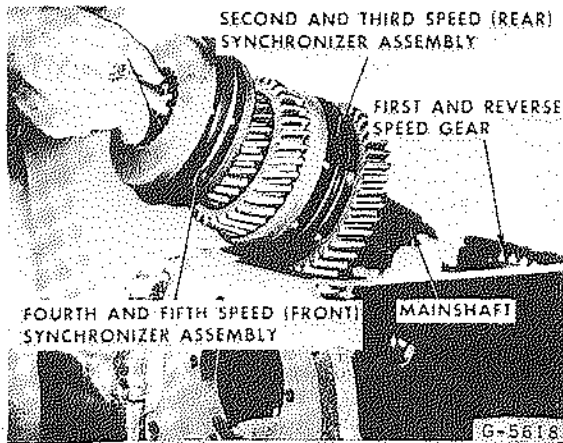

Fig. 18 - Removing Mainshaft Assembly
Lift mainshaft (17) and gears out through top of case (64), tilting the front end upward and leaving the first and reverse speed gear (22) in the case (Fig. 18).